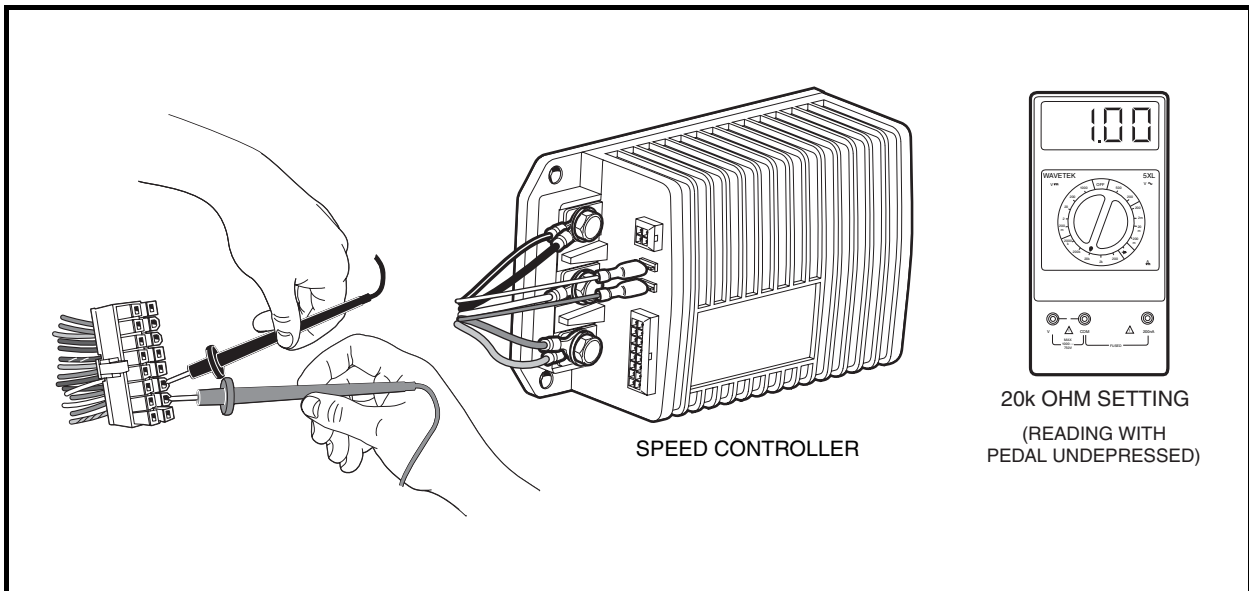

Figure 11-11 Pins 1, 2, and 3 Test
4. Set a multimeter to 20k ohms. Insert the red (+) probe of the multimeter into pin 2 (yellow wire) of the 16-pin connector. **See following CAUTION.** Insert the black (–) probe into pin 3 (purple/white wire) of the 16-pin connector (**Figure 11-11, Page 11-23**).